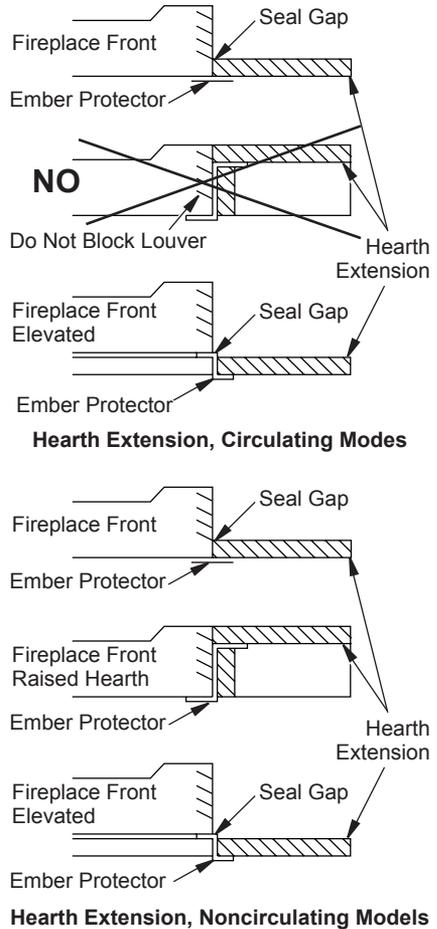

Figure 3 - Hearth Extension
Thermal conductivity "K" of materials can be obtained from manufacturer or supplier of noncombustible material. If hearth extension is to be covered, use noncombustible material such as tile, slate, brick, concrete, metal, glass, marble, stone, etc. Provide a means to prevent hearth extension from shifting and seal gap between fireplace frame and hearth extension with a noncombustible material (see Figure 3).
**WARNING: Hearth extension is to be installed only as shown in Figure 3.**